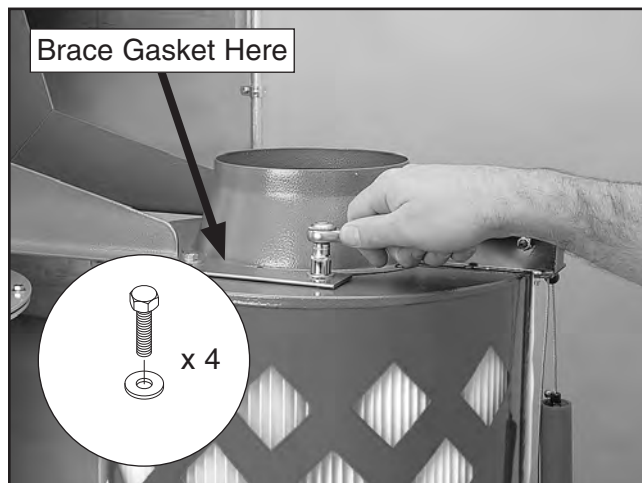

Figure 20. Mounting filters to the braces.
13. Mount the filter to the L-braces with the brace gaskets between them, as shown in **Figure 20**, using (4) $\frac{5}{16}$ "-18 x $\frac{3}{4}$ " hex bolts and (4) $\frac{5}{16}$ " fender washers.